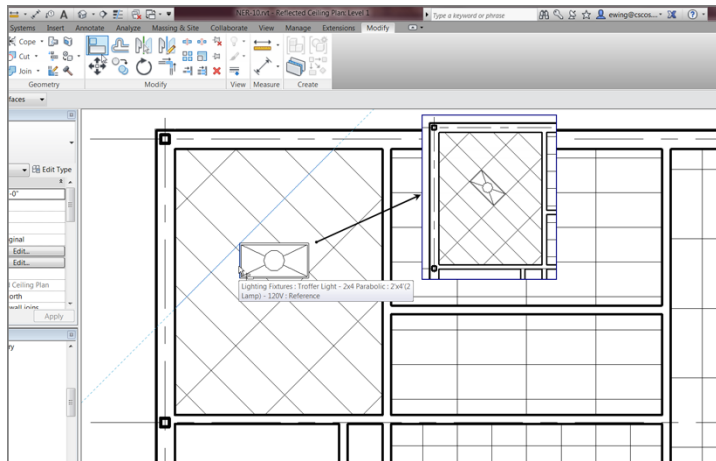

FIGURE 9.47: Aligning the fixture to the grid
8. Click the Align button on the Modify tab, as shown in Figure 9.47.
9. Align the light fixture to the grid in both directions (see Figure 9.47).